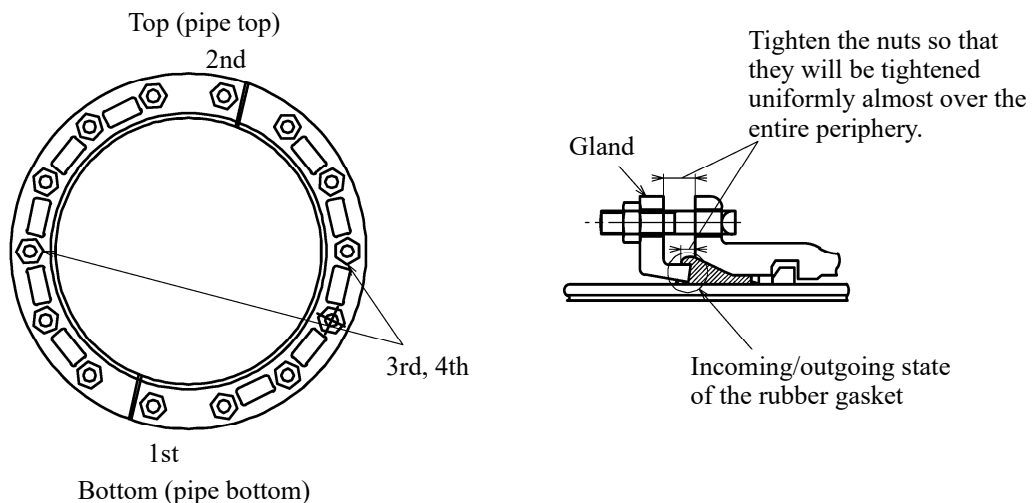

Figure 20 Tightening of bolts and nuts
- ① In the first place, tighten the nut located close to the gland split portion on the pipe bottom (the lower portion in Figure 20). Since the clearance between the socket and spigot tends to be comparatively small on the pipe bottom, tighten the nut in preference ("1st" in Figure 20).
- ② Secondly, tighten the T-head bolt and nut close to the split portion on the pipe top (on the top position in Figure 20).
- ③ Thirdly, tighten the nut on side of the pipe ("3rd" and "4th" in Figure 20).
- ④ After that, tighten the nuts on the almost symmetric positions alternately (tightening in a crisscross pattern). In this case, tighten the nut in preference where the space between the gland surface and socket end face is larger or where the rubber gasket is much protruded.